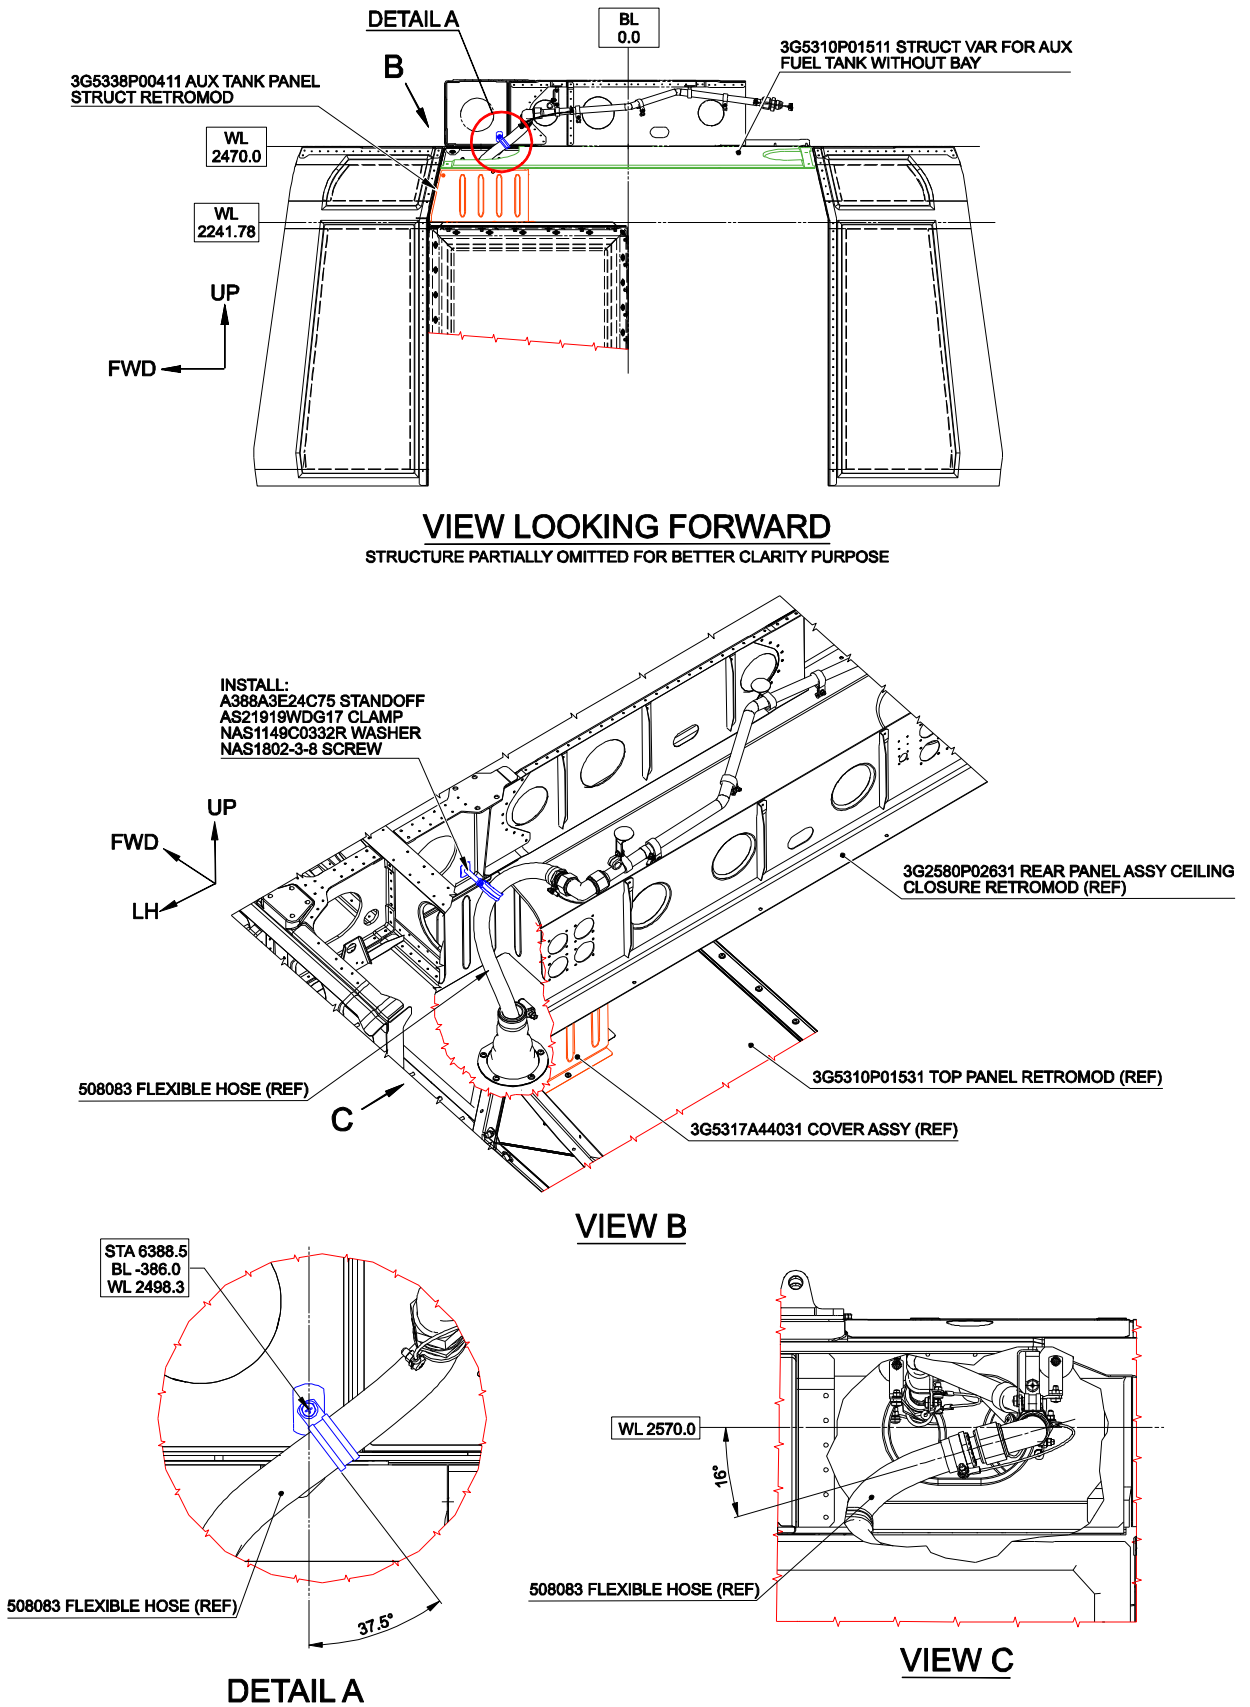

Figure 12
26. With reference to Figure 12 view B and Detail A and in accordance with AMP DM 39-A-20-10-09-00A-920A-A, install the standoff P/N A388A3E24C75 on the structure.
27. With reference to Figure 12 Detail A, View B and Detail C, secure the flexible hose P/N 508083 to the standoff by means of n°1 clamp P/N AS21919WDG17, n°1 screw P/N NAS1802-3-8 and n°1 washer P/N NAS1149C0332R.